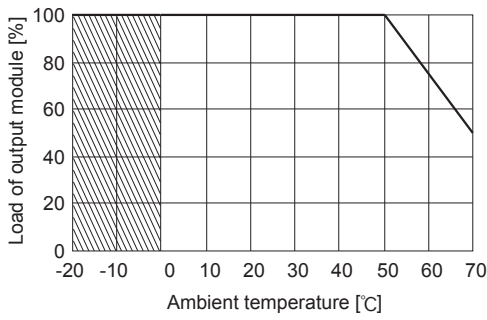

Fig. 4.6 Derating curve for ambient temperature
- The derating curve for the ambient temperature (inlet temperature for cooling) of output modules is shown in Fig. 4.6.
Accordingly, because the derating curve (Fig. 4.6) indicates that up to 100% of the maximum load can be used up to 50°C and the largest value amongst A₀, A₁₁, A₂₁, A₃₁, A₄₁, and A₅₁ is 100%, this assures that these input and output conditions are acceptable.